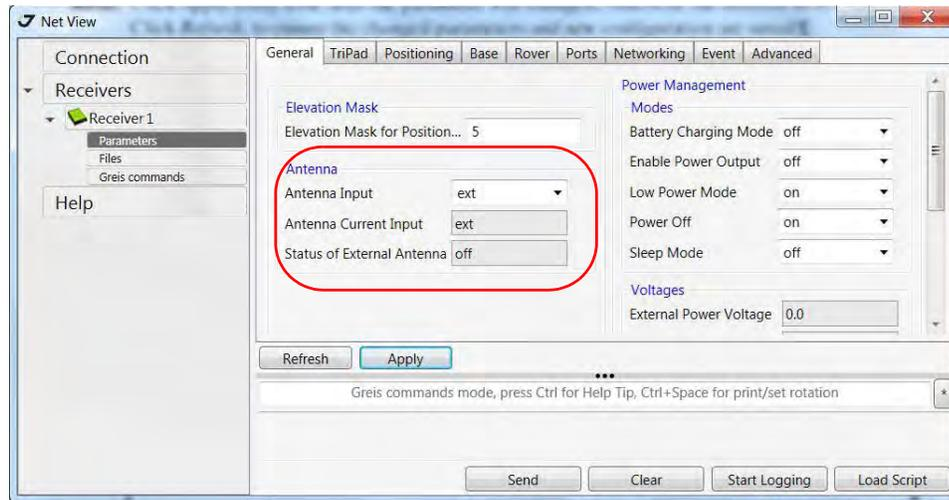

Figure 1-7. General tab
- In the *General* tab set the parameter *Antenna Input* to *External* (Figure 1-7).